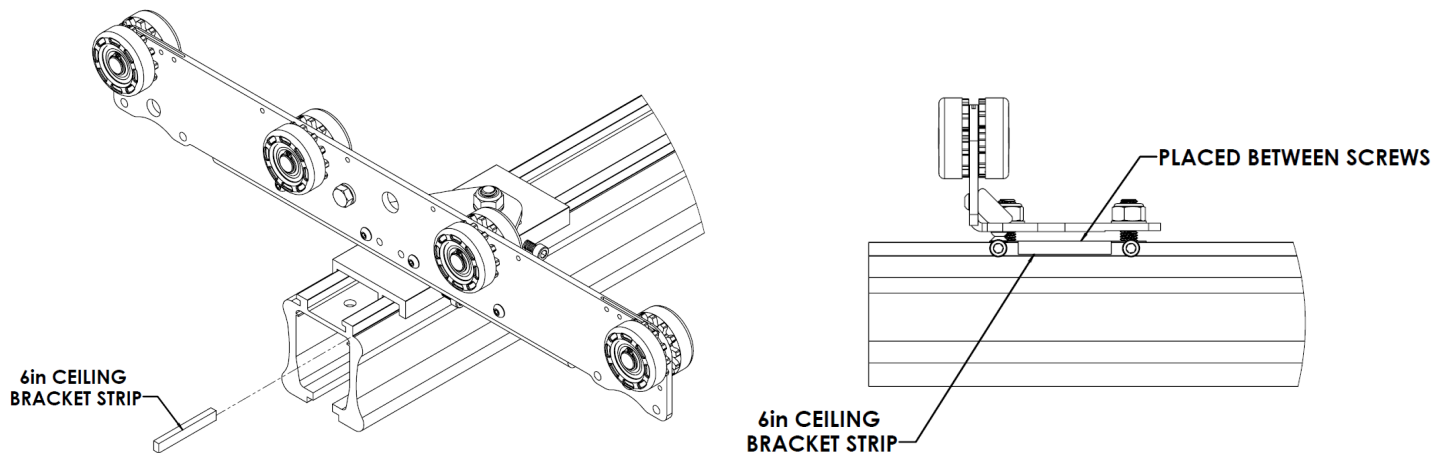

Figure 38: **Bracket Strip Installation**
11. On both gantry brackets, install the included bracket strips (360449) between the track channel and the set screws, as shown in Figure 38. To insert the bracket strip:
Make sure that the 6" ceiling bracket strip is properly installed between the screws of the gantry trolley bracket (see Figure 38).